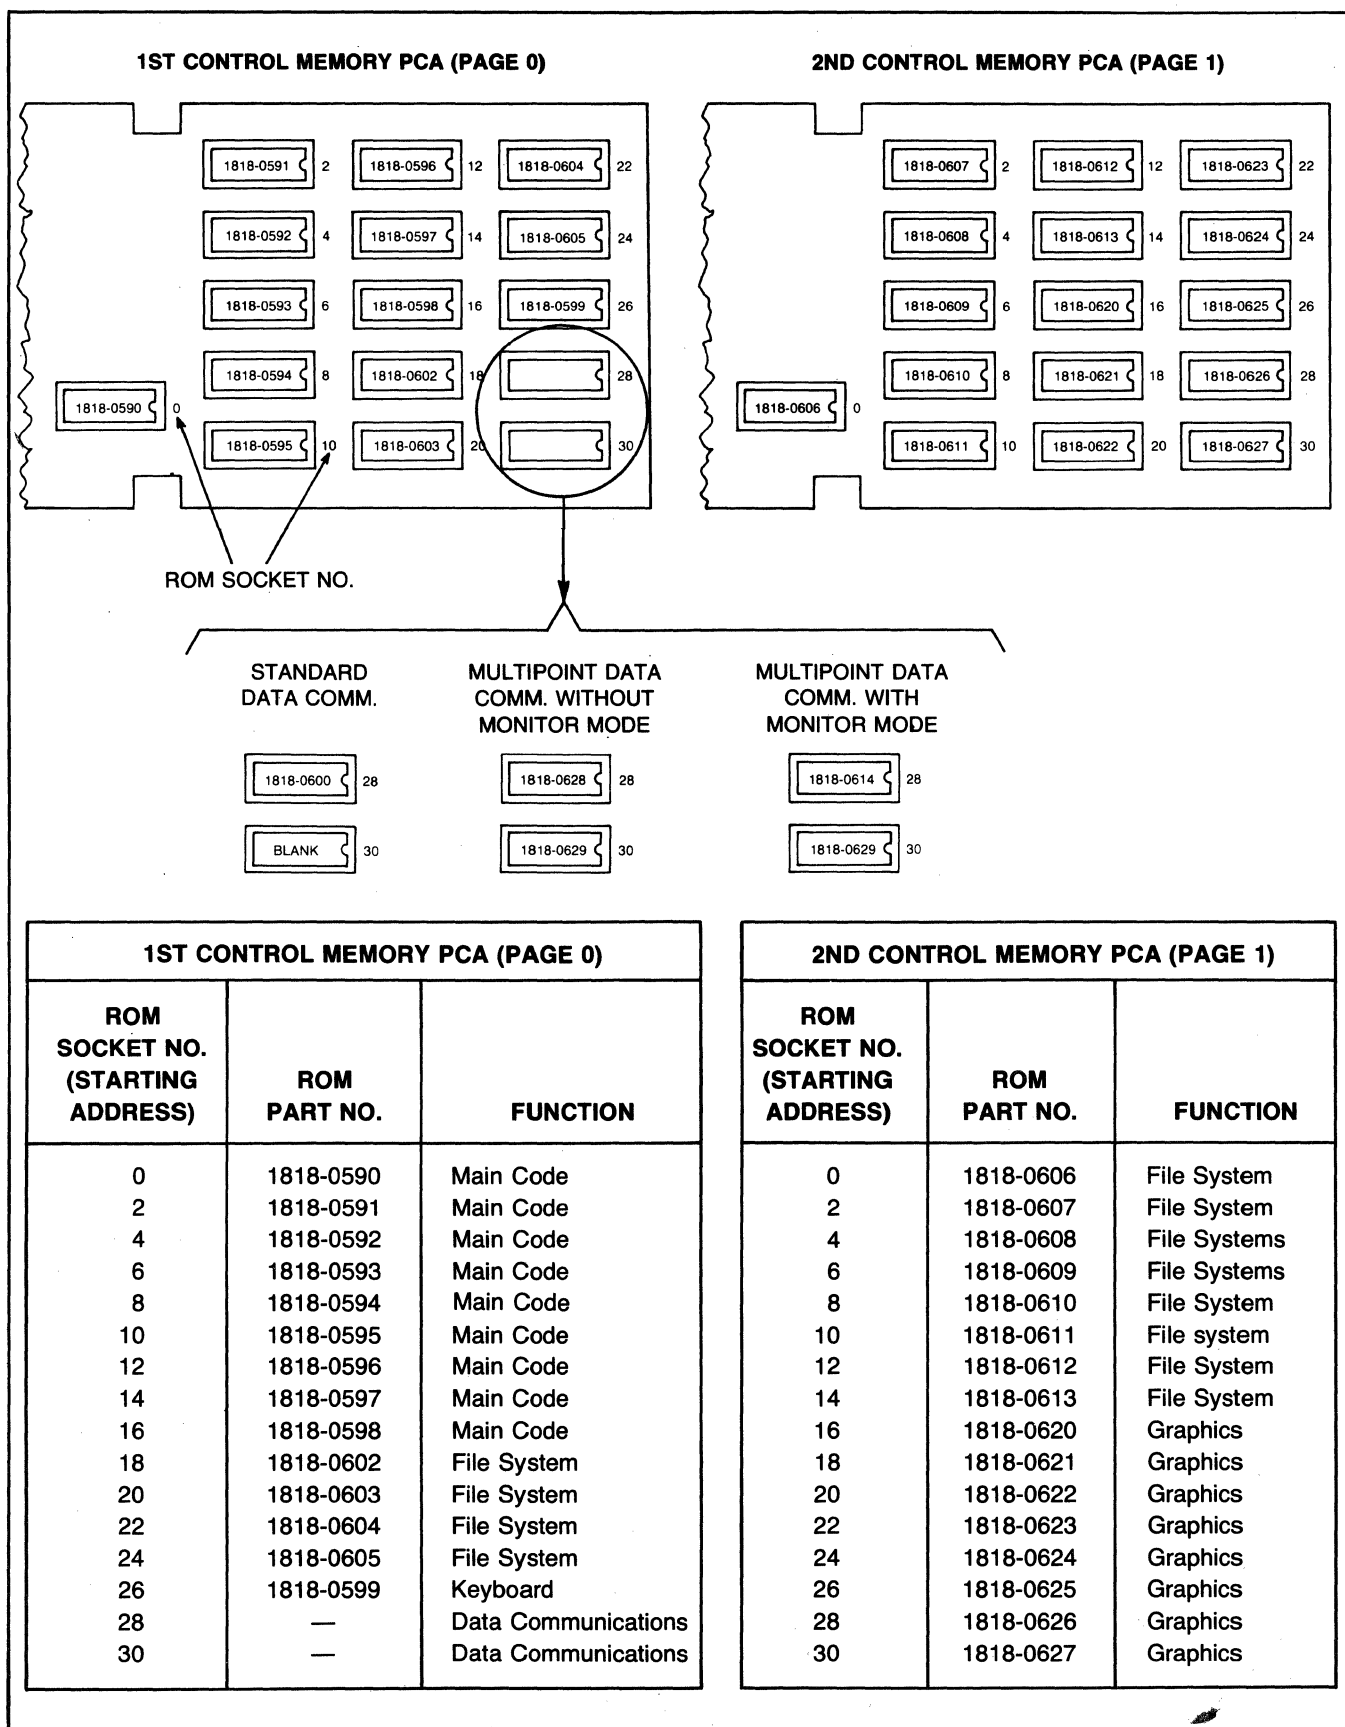

Figure 2-1. Control Memory PCA ROM Locations
- a. Set mainframe rear panel ~LINE switch to ON and observe keyboard. Some keyboard indicators may flash on and then off. If any indicators with the exception of TRANSMIT indicator remain lighted, a malfunction exists in the Processor PCA. Also, Control Memory PCA ROM's are checked. In most cases, if a ROM malfunction is encountered, or if a ROM is missing, monitor will display either "PAGE 0 ROM ERROR" or "PAGE 1 ROM ERROR" followed by some numbers, indicating that either a ROM IC is in the wrong socket, or the checksum was incorrect. (The basic terminal self-test flowchart in the *Reference Manual* shows the error messages.) Figure 2-1 shows the ROM numbers assigned to each socket (0, 2, 4, etc.) and the ROM IC part numbers for each location (e.g., 1818-0590 for ROM number 0). It also identifies page 0 and page 1.
- (1) Keyboard indicators light. If no indicators light, malfunction probably exists in Power Supply or Power Supply Control PCA.
- (2) Entire display including cursor momentarily blanks which checks display portions of Processor, DMA, Display Control, and Display Timing PCA's. Also the ROM's on the Control Memory PCA's are checked as described in step a. If display does not clear (blank), malfunction probably exists in Display Control PCA.